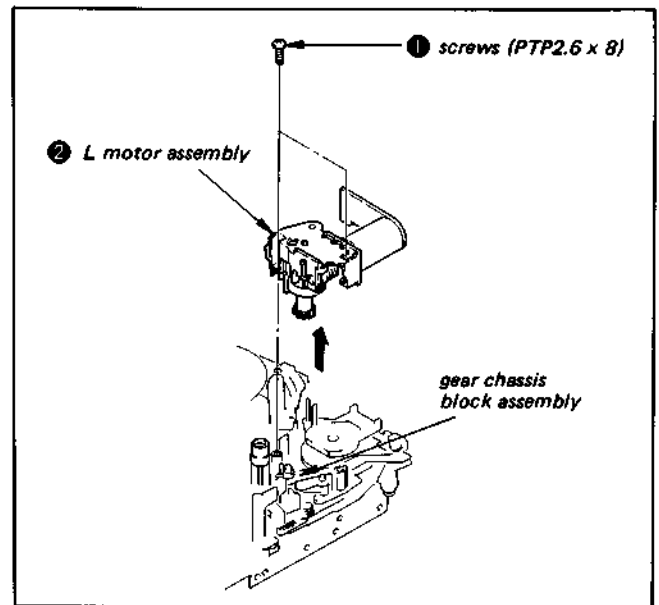

Fig. 1-5
- 1) Remove screw (PTP2.6 x 8) ① and remove L motor assembly ② upward (Fig. 1-5).